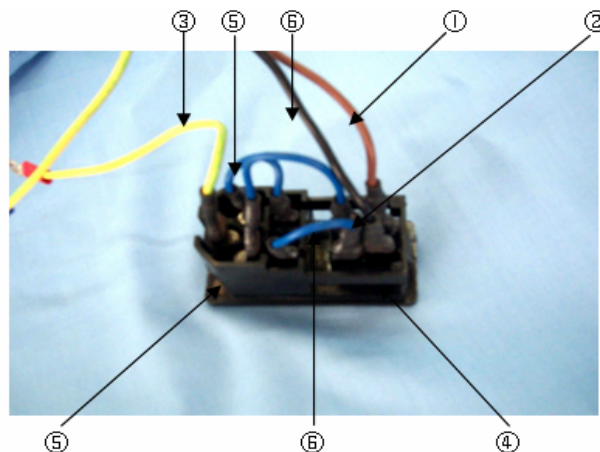

Figure 3-6
- 2、 Press out the spring piece ④ at the two sides of switch socket, take out the whole switch socket, the structure of power switch is shown as figure 3-6